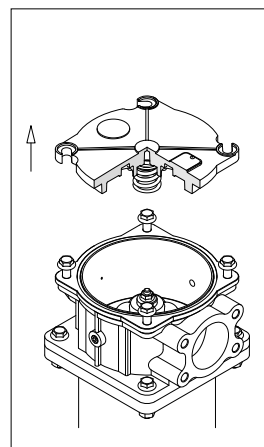

fig. 5
- (Fig. 5) Remove the cover to which the spring remains assembled